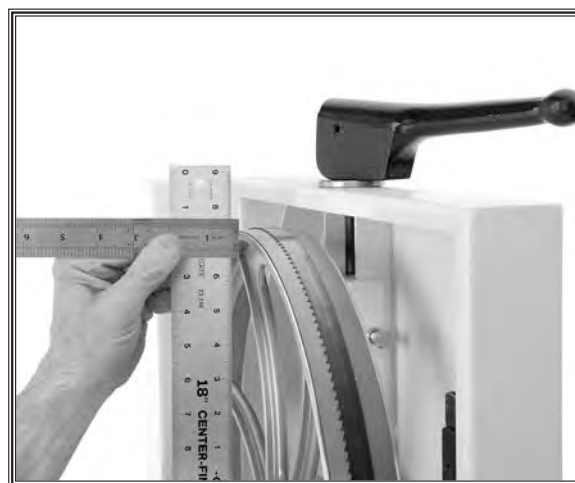

Figure 6. Measuring wheel difference.
3. With the straightedge touching both points of the wheel that does not need to be adjusted, measure the distance away from the incorrect wheel with a fine ruler (see **Figure 6**).